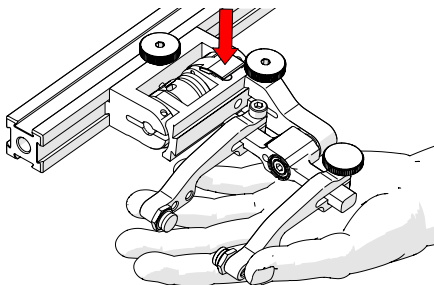

Fig. 158 - Lift slightly and press latch
2. Lift the probe holder slightly and press the latch button (Fig. 158) to release the probe holder to the full 45° degrees.